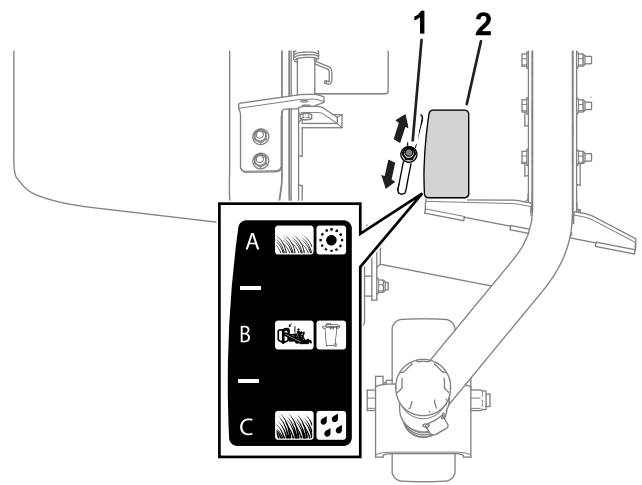

Figure 15
2. Loosen the nut (Figure 15).
Refer to the following sections for a description of each flow-baffle position. Figure 15 illustrates each position (i.e., A, B, and C) as seen on the decal.